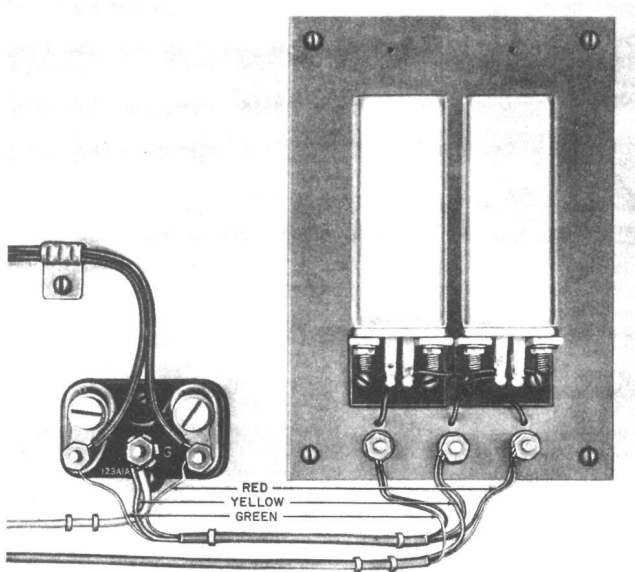

FIGURE 9. 123A1A Protector with 40BA Capacitor Installed
6.01 The 40BA capacitor should be installed near and connected to the protector with as short a piece of inside wire as possible (see Figure 9).